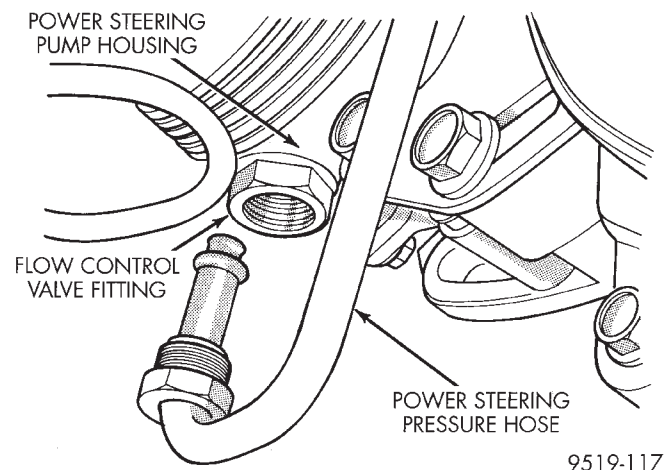

Fig. 6 Pump Discharge And Flow Control Valve Fitting
(2) Remove the power steering pump discharge/flow control valve fitting (Fig. 6) from the power steering pump housing. **Use care to prevent the flow control valve and spring from sliding out of the discharge/flow control valve fitting.**
- (1) If necessary, clean and install flow control valve and spring in pump housing bore.
- (2) Install new O-ring seal on fitting.
- (3) Install the discharge/flow control valve fitting (Fig. 6) into the power steering pump. Tighten the discharge/flow control valve to a torque of 75 N·m (55 ft. lbs.)